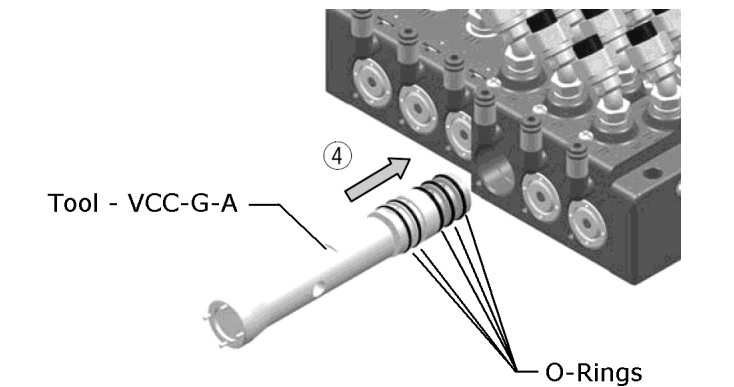
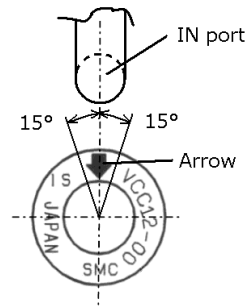

Figure 6
Figure 8
- Slowly insert the valve straight ④ into the manifold, see Figure 6, and ensure the arrow on the valve is within 15° of the IN port (see Figure 8).